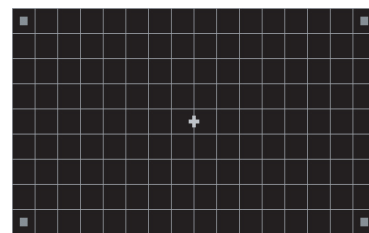

Figure 5
The Crosshatch Test Pattern (Horizontal and Vertical White Lines on a Black Background) will appear on the screen and will be used during the following steps. Refer to figures 5 and 6.
5. Rotate clockwise or counterclockwise the Knurled Ring surface on the front section of the projector lens to perform an initial focus adjustment. Refer to figures 5 and 6.
6. Rotate clockwise or counterclockwise the Knurled Ring surface on the rear section of the projector lens to fill the screen with the Crosshatch Test Pattern. Refer to figures 5 and 7.
10. Rotate one or both of the projector feet to line up the top and bottom horizontal lines of the Crosshatch Test Pattern to be parallel with the top and bottom edges of the screen. Refer to figures 5 and 10.
12. Rotate the projector clockwise or counterclockwise about the center horizontal axis to minimize any horizontal keystone distortion. The top and bottom horizontal lines of the Crosshatch Test Pattern should be parallel with the top and bottom edges of the screen. Refer to figures 5, 12 and 13.